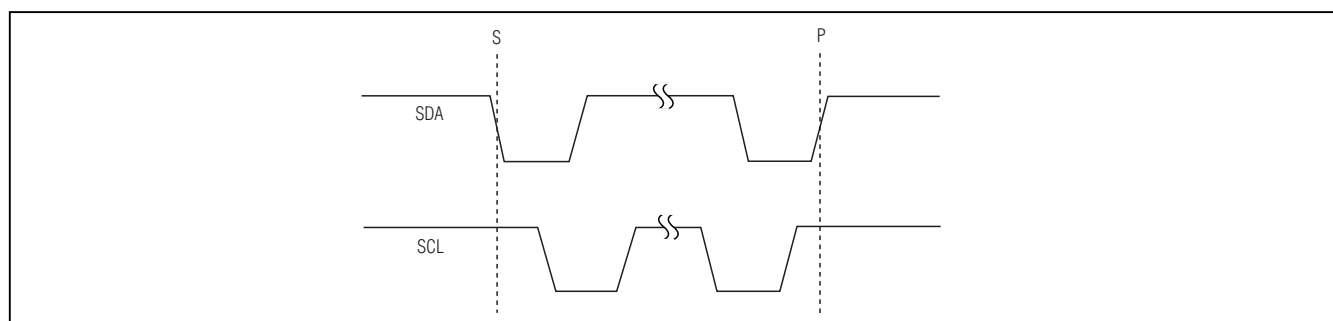

Figure 7. START and STOP Conditions
The master initiates a transmission with a START condition (S), a high-to-low transition on SDA while SCL is high. The master terminates a transmission with a STOP condition (P), a low-to-high transition on SDA while SCL is high (see Figure 7).